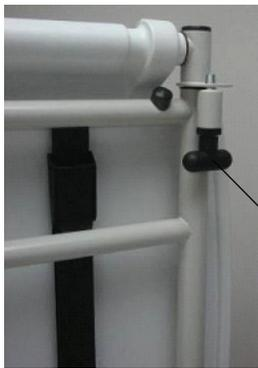

Figure 90: Tray support lock
1. Pull down the tray support pole lock (G) (Figure 90 on page 98).